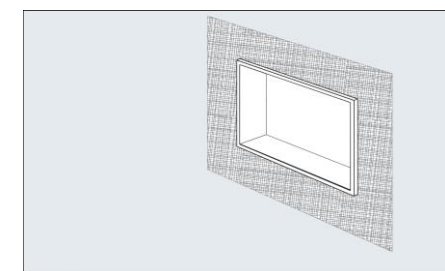

Fig. 5
STEP 7: The Walls are now ready to be waterproofed with liquid waterproofing (supplied by others) (Fig 5).